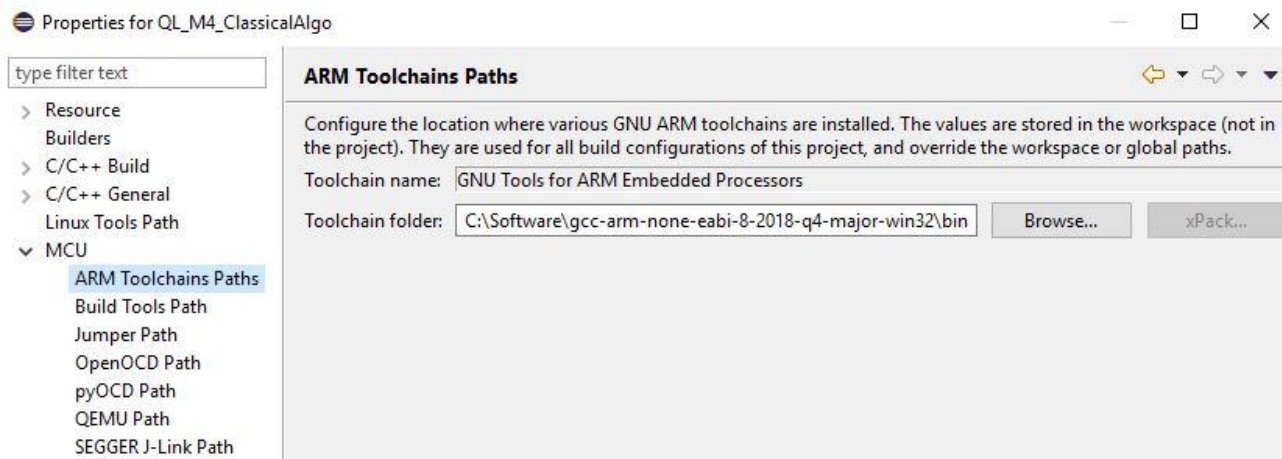

Figure 9 ARM GCC Toolchains Path
6. Goto the **MCU** section and in the **ARM Toolchains Path**, browse to the bin folder of extracted ARM GCC Toolchain (Figure 9) and click on Apply.